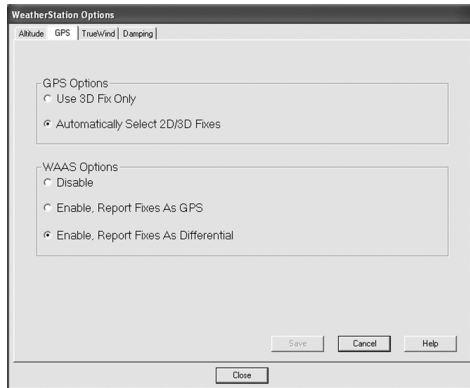

Figure 33. GPS options window
**GPS Options**—It is possible to restrict the operation of the GPS to only allow 3D fixes. By selecting “Use 3D fix only”, the sensor will not report a fix until it has achieved a 3D fix (see Figure 33). To re-enable the automatic selection of 2D versus 3D fix calculations, click the “Automatically select 2D/3D fixes” button.
**WAAS Options**—If the internal GPS receiver is WAAS enabled, the WAAS options will be available (see Figure 33). WAAS enabled GPS receivers utilize the Wide Area Augmentation System to provide more accurate positioning data. Click Disable, Enable—report fixes as GPS, or Enable—report fixes as differential.